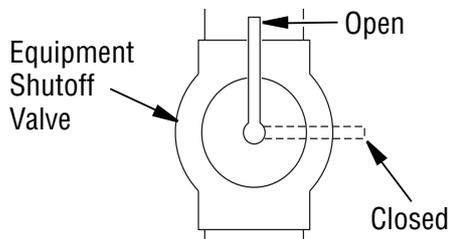

Figure 21 - Equipment Shutoff Valve
1. Close equipment shutoff valve (*see Figure 21*).
1. Open equipment shutoff valve (*see Figure 21*).